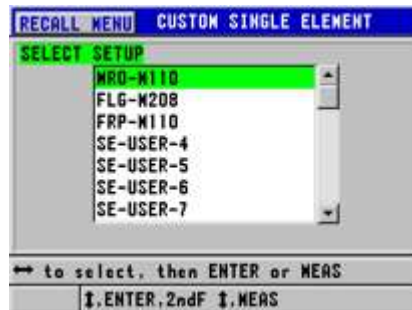

Fig. 5
8) The 45MG then displays the setup list of transducers as shown in Fig. 5.